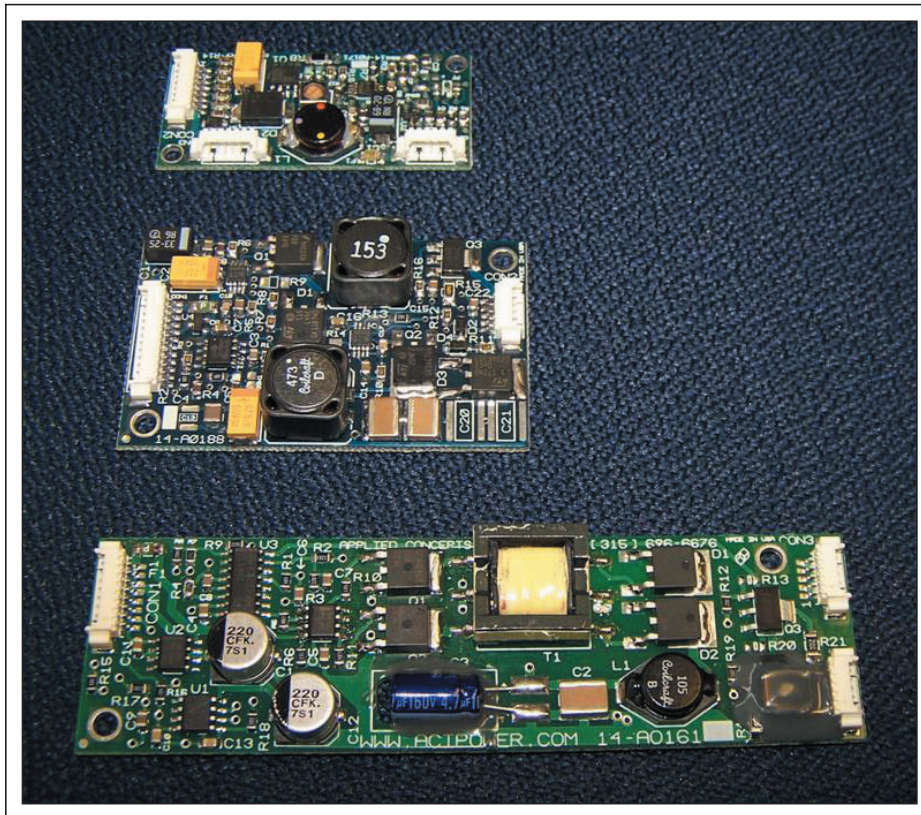

Fig. 2: Complete, integrated LED driver boards can be used for LED retrofit backlights and for OEM LED-backlit panels.
- **Overall Solution Requirements:** A full-function LED driver board, as shown in Fig. 2, may provide the flexibility to be used for LED-backlight retrofits (edge or direct view), as well as for OEM-factory LED-backlit panels. Additionally, a full-function driver may also provide enhanced control features such as wide dimming range, NVIS control capability, ambient-light sensing, and luminance feedback, which are often required for LCD systems today. Additional components and circuitry would be required to support these functions using a chip-style driver in most cases.